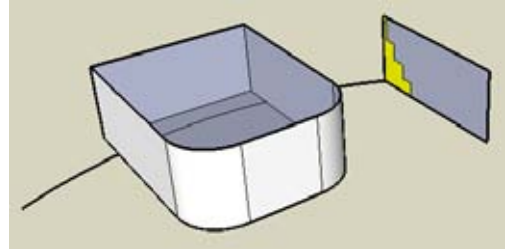

Figure 4-65
3. Copy one of the side faces of the box to the end of the arc. On this face, draw a cross-section for steps (Figure 4-65).